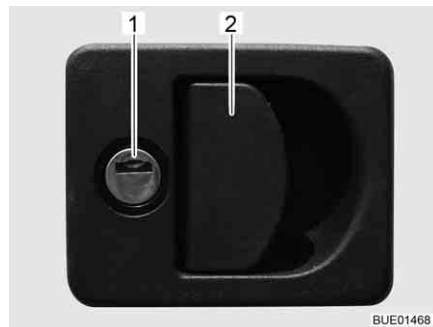

Fig. 63 Flap lock with recessed handle
- Insert key into locking cylinder (Fig. 63,1) and turn a quarter turn. The flap lock is unlatched.
- Pull on the lock handle (Fig. 63,2). The external flap is open.